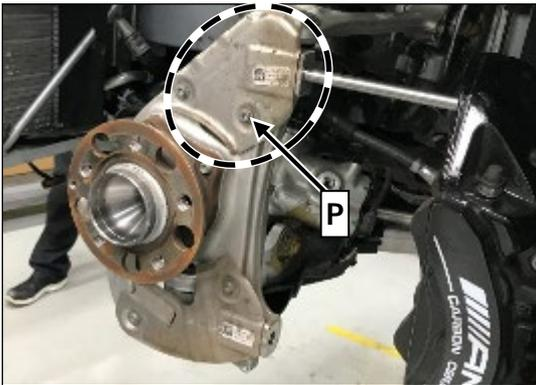

Figure 17
19. Remove top left and right heat shields (P, Figure 17).